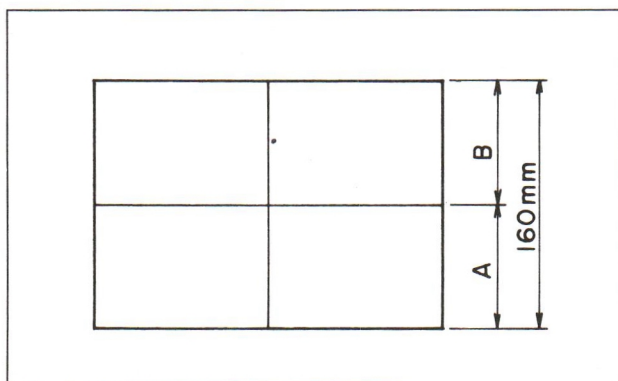

Fig. 4-1
- (1) Display cross-hatch (or "H") over the entire screen.
- (2) Adjust V. HEIGHT VR (R1408) until the entire length from top to bottom of the raster is 160 mm.
- (3) Adjust V. LINE VR (R1406) until the length A and B in Fig. 4-1 becomes equal.
- (4) Adjust V. POSI VR (R1429) until the picture is positioned at the center of the screen.